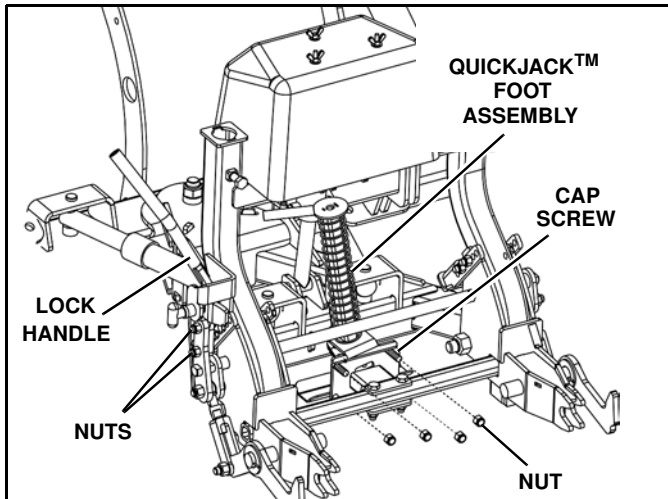

Figure 1-32
28. Install QuickJack™ foot assembly on bracket using four 1/2"-13 x 1-1/2" hex head cap screws and four 1/2"-13 lock nuts. (See Figure 1-32).
30. Position the lock handle on the Lower Light Lift Bar linkage and secure with two 1/2"-13 x 1-3/4" cap screws and two 1/2"-13 lock nuts. (See Figure 1-32).